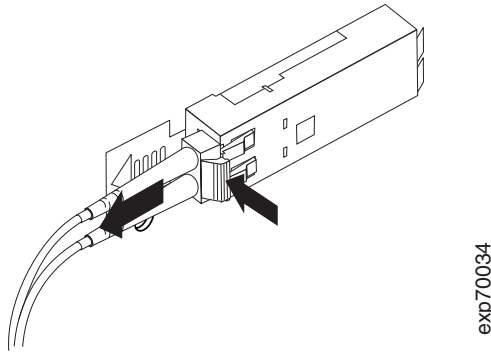

Figure 20. Removing the LC-LC fibre channel cable
2. Carefully pull on the connector to remove the cable from the SFP module as shown in Figure 20 on page 32.